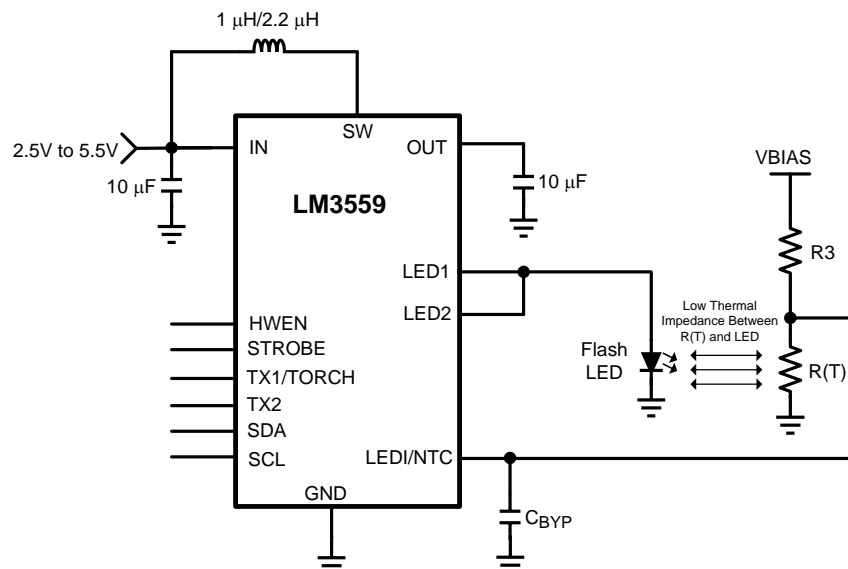

Figure 20. LM3559 Typical Application Circuit with Thermistor
Programming bit [4] of Configuration Register 1 with a (1) selects NTC mode and makes the LED1/NTC pin a comparator input for flash LED thermal sensing. Figure 20 shows the LM3559 using the NTC thermistor circuit. The thermal sensor resistor divider is composed of R3 and R(T), where R(T) is the Negative Temperature Coefficient Thermistor, V_{BIAS} is the bias voltage for the resistive divider, and R3 is used to linearize the NTC's response around the NTC comparators trip point. C_{BYP} is used to filter noise at the NTC input.
6. The NTC Thermistor is intended to have its return path connected to the LEDs cathode. This allows the thermistor resistive divider voltage (V_{NTC}) to trip the comparators threshold as V_{NTC} is falling. Additionally, the thermistor to LED cathode junction should be connected as close as possible in order to reduce the thermal impedance between the LED and the thermistor. The draw back is that the thermistor's return will see the switching currents from the LM3559's boost converter. Because of this, it is necessary to have a filter capacitor at the NTC pin which terminates close to the GND of the LM3559 (see CBYP in Figure 20).